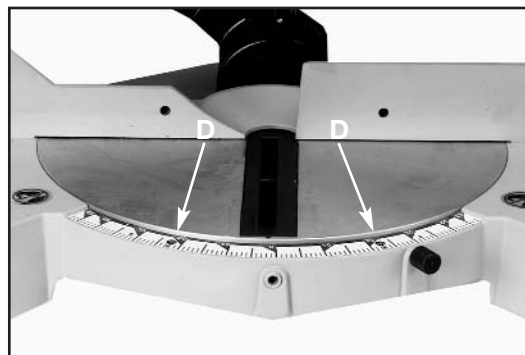

Fig. 15
Your compound miter saw contains positive stops for the table at the 0, 22-1/2, 30, and 45 degree right and left positions. Two triangle indicators (D) Fig. 15 are also provided to rapidly set the table at the 31-5/8 degree right and left miter angle for cutting crown moulding.
Loosen the bevel cutting lock handle (A) Fig. 15. Tilt cutting head to the desired bevel angle, and tighten the lock handle (A). **NOTE:** Lock handle (A) is spring-loaded and can be repositioned by pulling out on the handle and turning it on the serrated stud located underneath the handle.